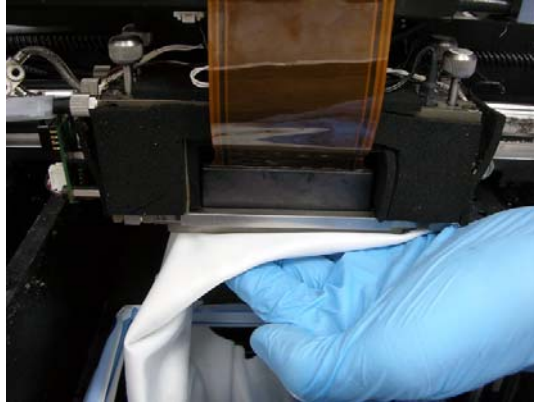

Figure 6-23: Cleaning the heads
9. Clean the orifice plates, with a back-and-forth motion (see figure 6-23). Use the mirror to make sure that you have removed all of the residue material.